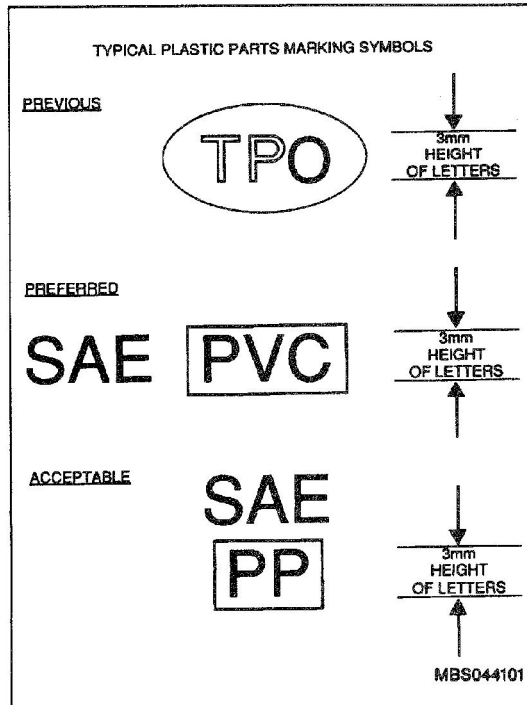
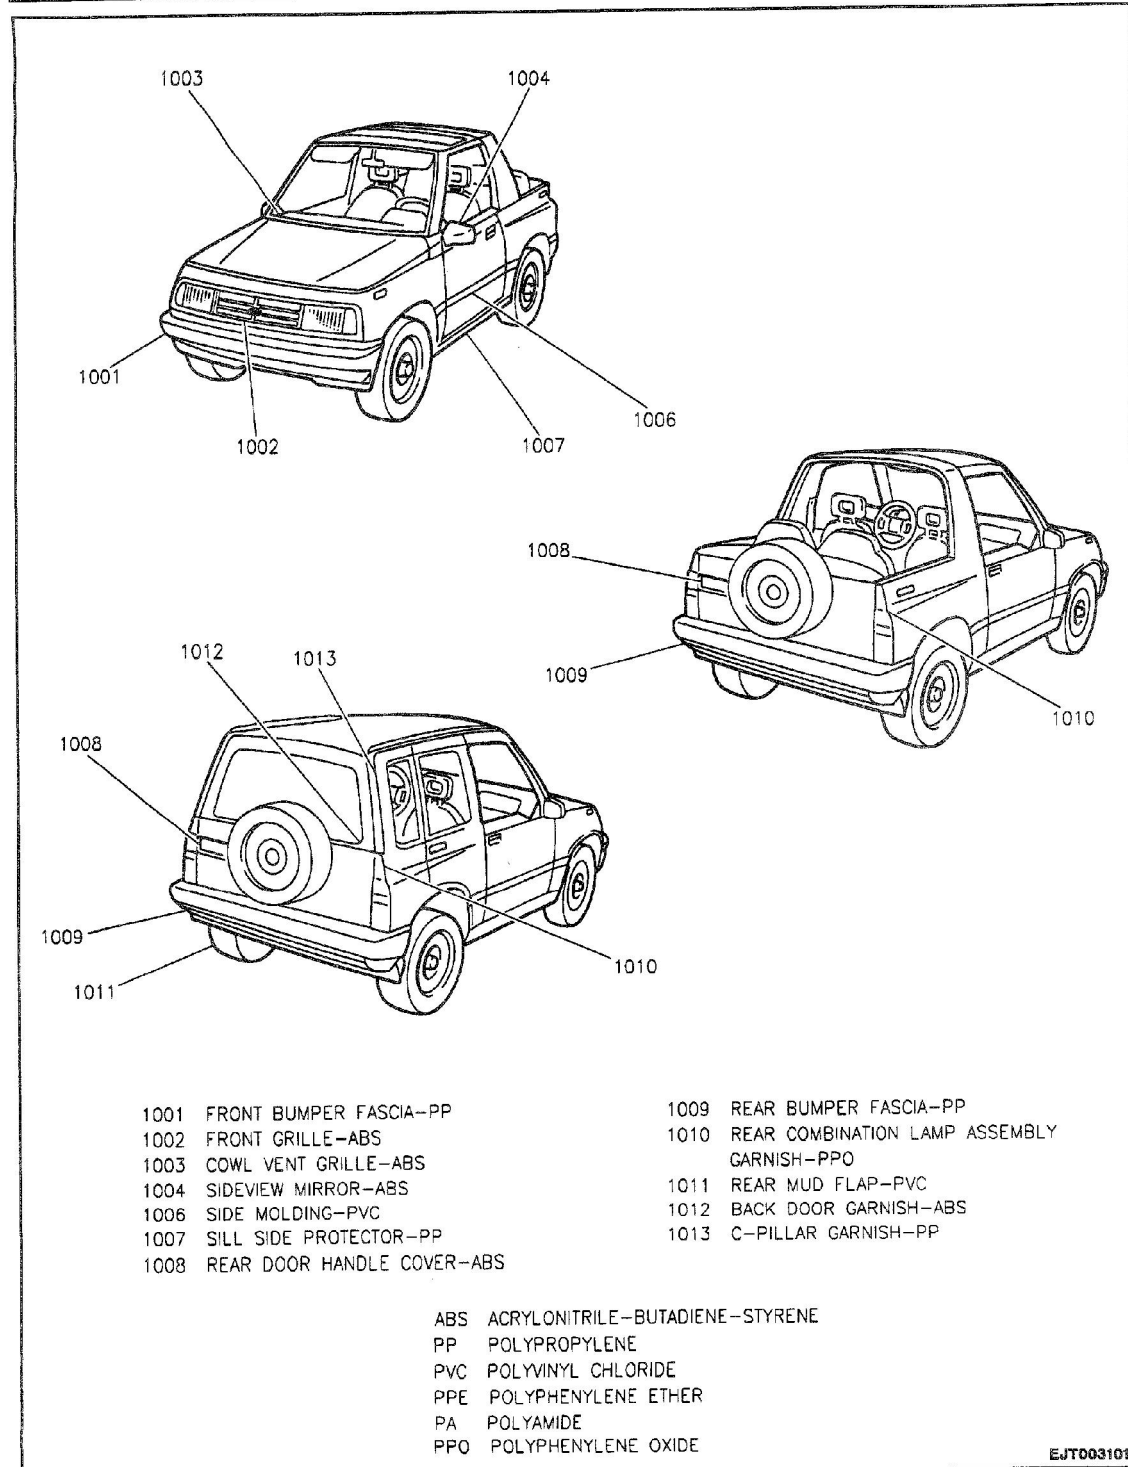

Figure 9—Typical Plastic Parts Marking Symbol
Figure 10—Locations and Types of Exterior Plastic Parts
#### Figures 9 and 10
To identify specific plastics used on this vehicle, refer to Figures 9 and 10 and to the following charts; "Handling Precautions for Plastics" and "Chart of Plastic Parts Identification and Refinishing Systems." To identify other plastics, use the following procedure:
1. Look on the back side of the part for the International Organization for Standardization Code marking (Figure 9). If no code marking is found on the part, refer to Figure 10 for the locations and types of exterior plastic trim parts.